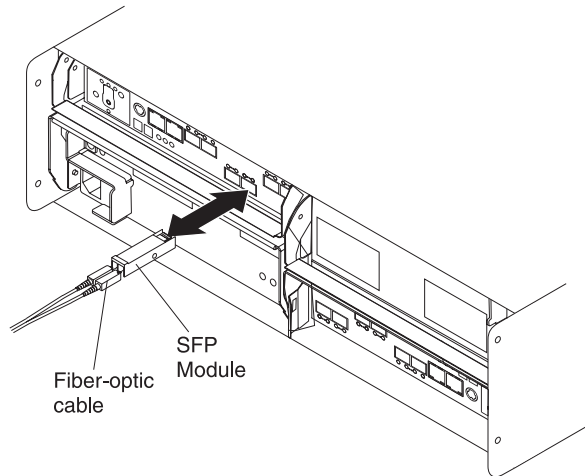

Figure 26. Installing an SFP module and LC-LC cable in a supported DS5020 storage subsystem
2. Connect an LC-LC fibre-optic cable into the SFP module, as shown in Figure 26.
**Note:** Figure 26 shows a DS5020 Storage Subsystem. The DS5020 Storage Subsystem is shown for illustrative purposes only.